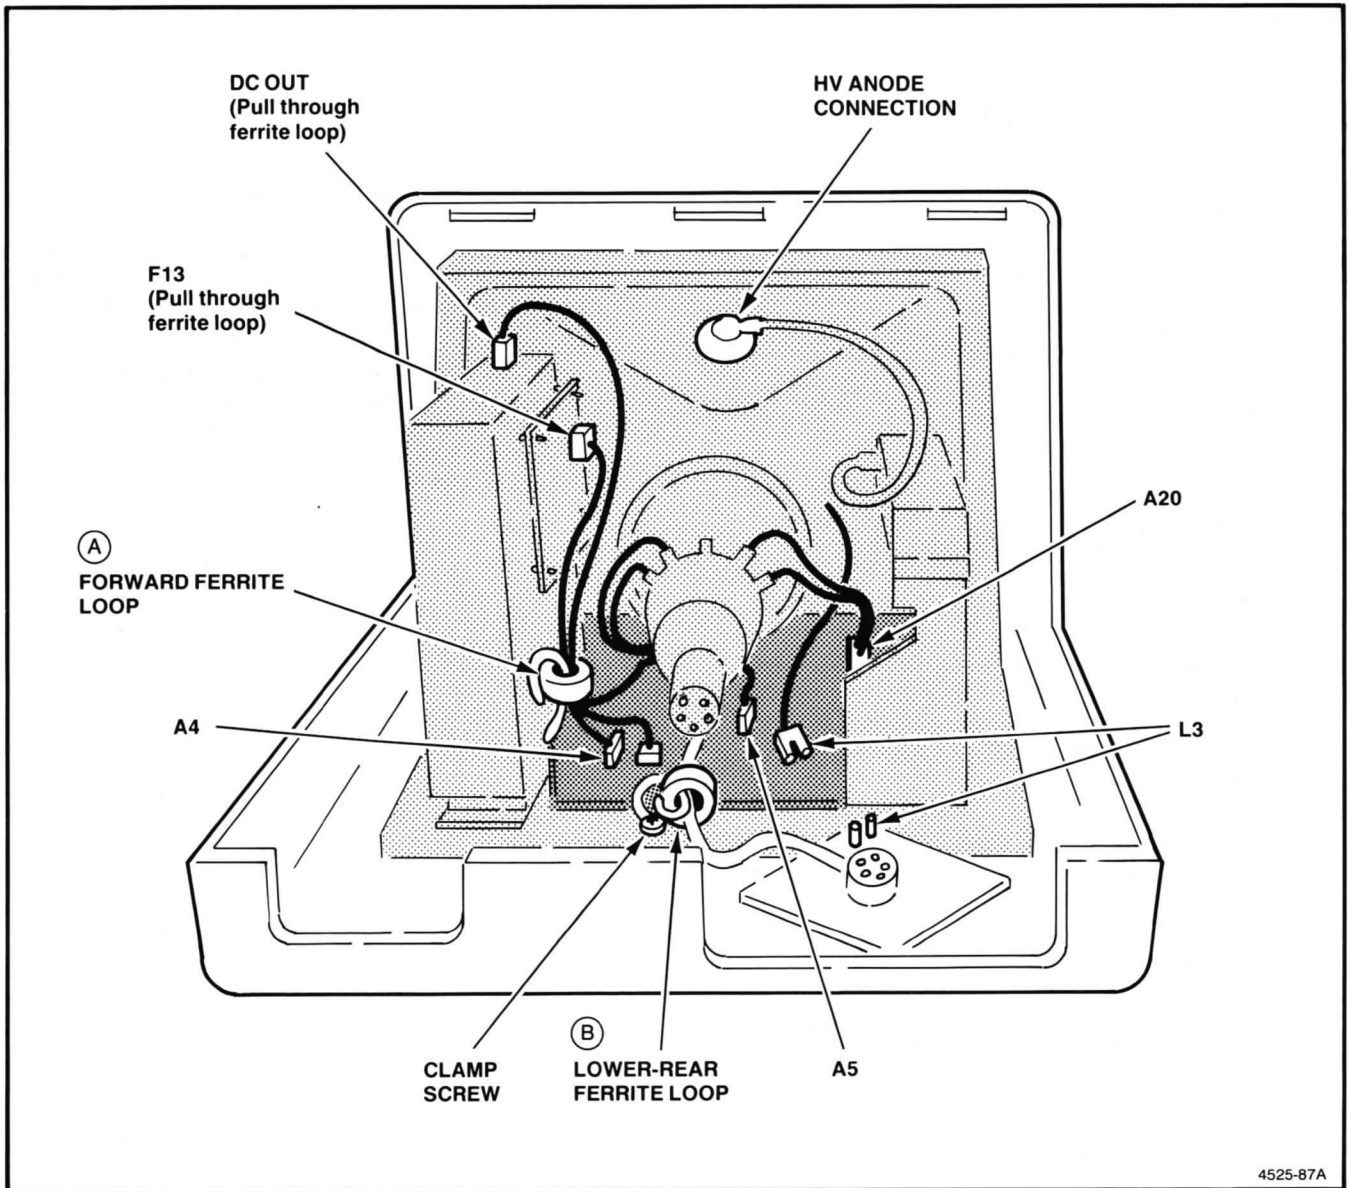

Figure 6-12. Removing the Ferrite Loops.
The Interface board is part of the Display Module. It is mounted on the Display Module's power supply. Refer to Figure 6-12 while performing this procedure.
5. Disconnect the forward ferrite loop from the chassis by unwrapping its red connecting strap. See (A) in Figure 6-12.
3. Unwrap the red strap that holds the lower-rear ferrite loop to the chassis. Refer back to ③ in Figure 6-12. The ferrite loop remains on the wires passing through the loop. Disconnecting the loop-strap provides the needed freedom for these wires.
8. Unplug F13 from the Interface board. Pull cables from F13 and DC OUT through the forward ferrite loop (if still installed). Refer back to Figure 6-12.